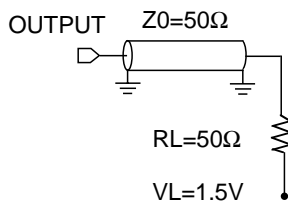
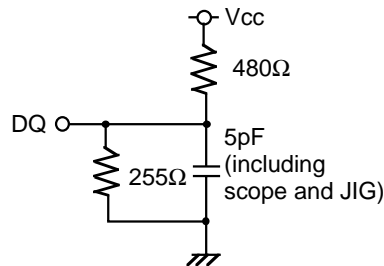

Fig.1 Output load
Fig.2 Output load for t_{en}, t_{dis}
- Output loads Fig1 ,Fig2
5. Transition is measured $\pm 500\text{mV}$ from steady state voltage with specified loading in Figure 2.